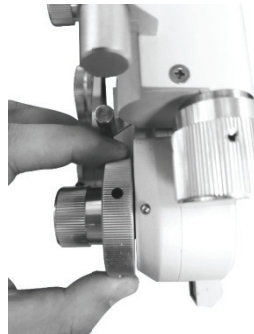

Fig.12
To obtain required diopter setting quickly, use strong spherical power knob ②②, then value S increases or decreases progressively in 3.00D diopter steps (Fig.12).